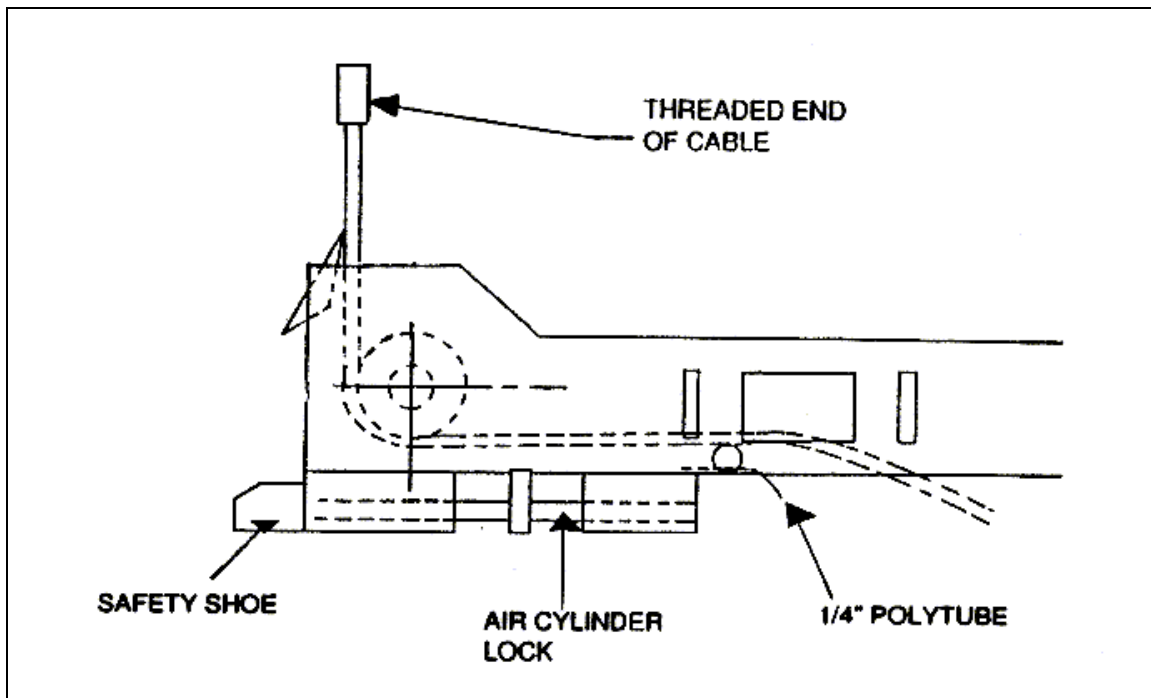
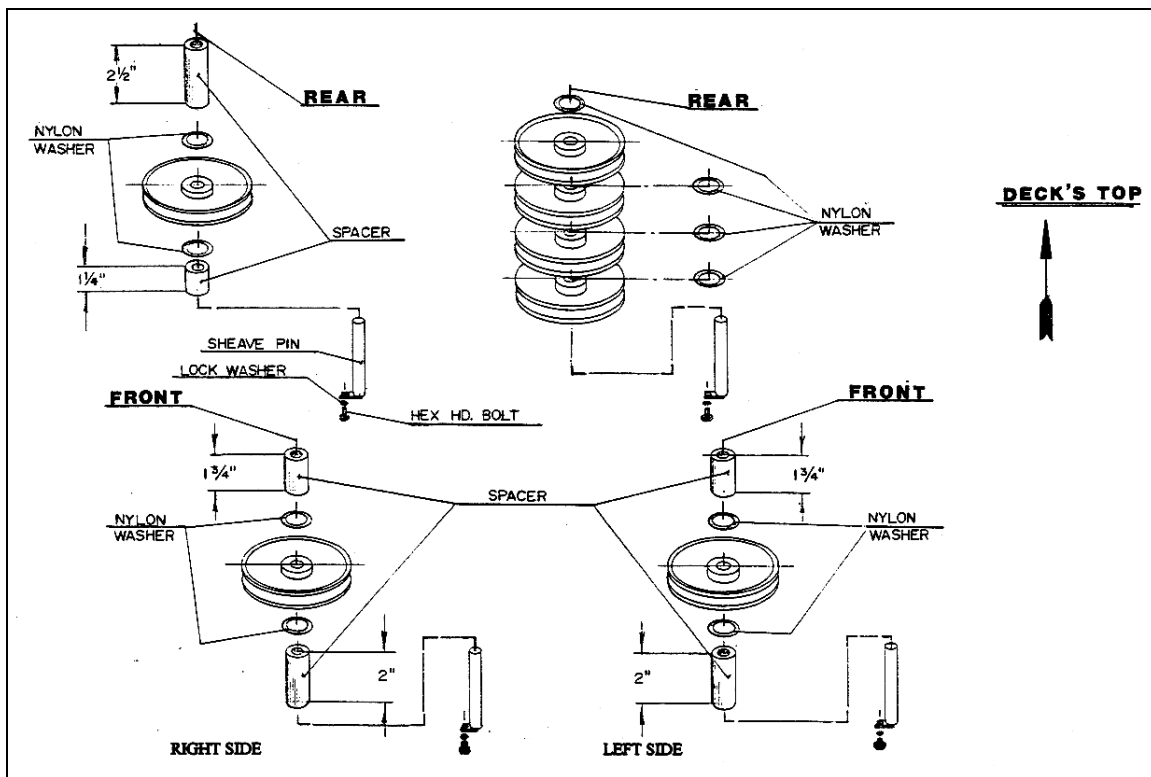

Figure 4. Typical cable routing in crossmember
Figure 5. Sheaves installation
- Before beginning cable routing, refer to Figure 4, Cable and Routing Diagram.
- Begin routing cable # 4 (part # 2-1288) starting at the very top of the right side of the front crossmember assembly using the non threaded end of the cable as described in Figure 4. Place the non threaded end of the cable at the opening of the front-right crossmember.
- Route cable # 1 (part # 2-1287) starting at the very top of the left side of the front crossmember assembly using the non threaded end of the cable as described in Figure 4. Place the non threaded end of the cable at the opening of the front-left crossmember.
Refer to Figure 4, Figure 5, and Section 9.4.
- Refer to Figure 4, Cable and Routing Diagram.
- Check for correct arrangement of spacers on sheave stacks, Figure 5.
- Install the sheave into the front of the right deck as shown in Figure 5 and Section 9.4.
- Begin routing cable #3 (Part # 2-0541) from the right rear crossmember assembly using the non threaded end of the cable as described in Figure 4, and out through the crossmember assembly to the opening under the rear of the right deck.
- Install the sheave into the rear of the right deck as shown in Section 9.4, and Figure 5.
- Route cable #2 (Part # 2-0540) from the left side of the rear crossmember assembly using the non threaded end of the cable as described in Figure 4, and out through the crossmember assembly to the opening under the rear of the left deck.
- Install the sheave into the front of the left deck as shown in Section 9.4, and Figure 5.
- Install the sheave stack assembly at the rear of the left deck as shown in Section 9.4, and Figure 5. Sheaves installation.